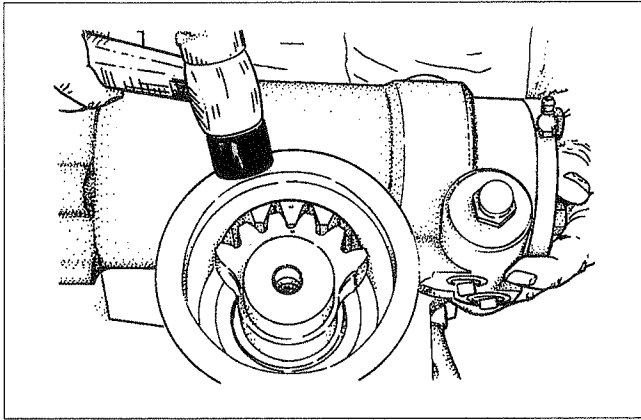

Figure 33
4. It will be necessary to tap the end of the sector shaft with a soft hammer to ensure proper engagement of the rack and pinion (Figure 33).